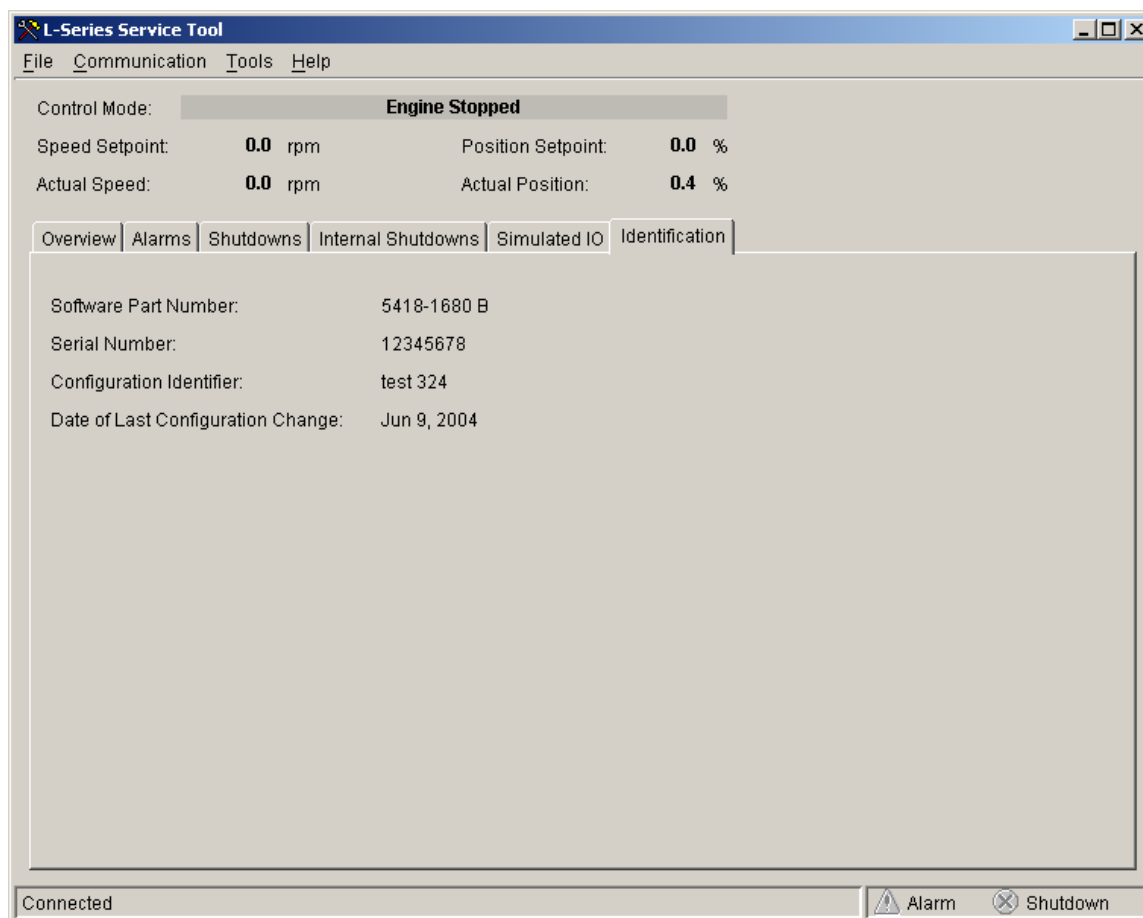

Figure 5-8. Service Tool—Identification Tab
- Identification (see Figure 5-8)